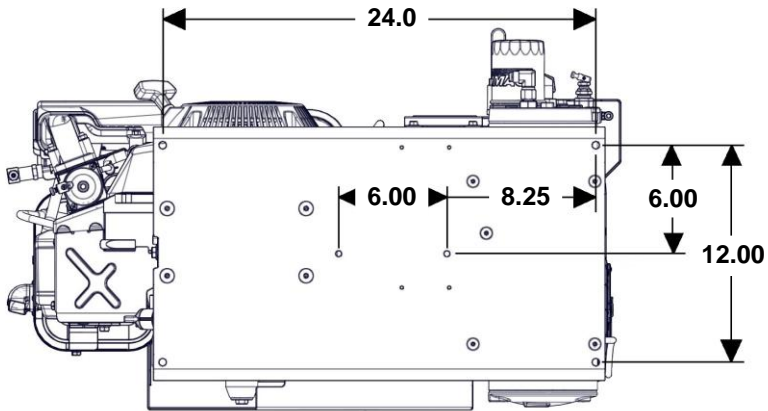

Figure 12 - Mounting with base plate
- There are four holes, near the four corners of the base plate which can be used as mounting bolt locations. Holes can also be drilled through the bottom of the base plate if alternate locations are required (Figure 12).
- There are two optional M8 Bolt holes, shown by the grey outlines (Figure 12).